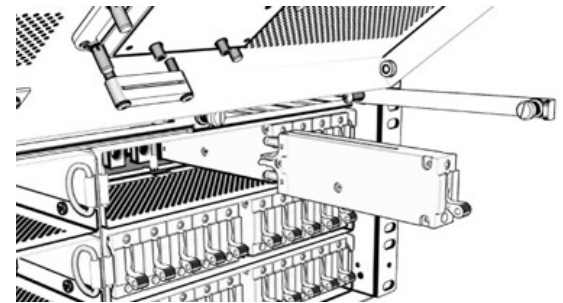

Figure 10. Circuit Breaker Installation
Step 2. Insert slimline circuit breakers into the circuit breaker modules, ensuring they are fully seated (see Figure 10).